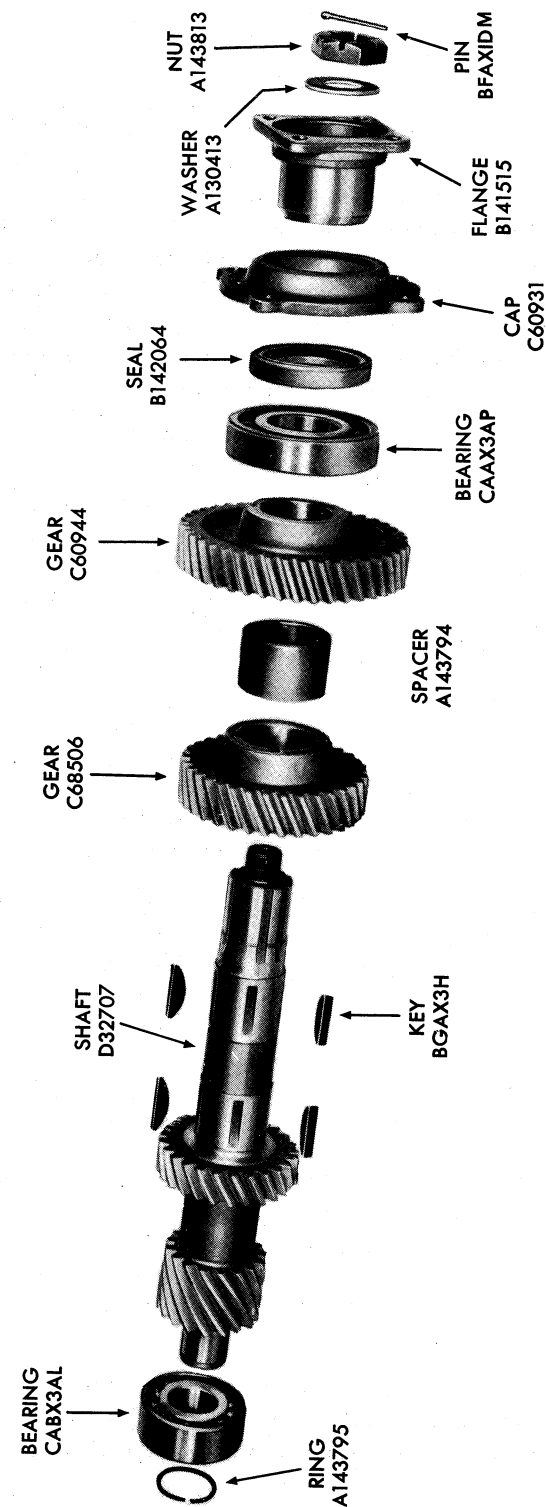

FIGURE 50—Parts of input shaft assembly.
b. Inspection.—Carefully clean shaft with gears and fourth and fifth speed gears with dry cleaning solvent. Examine all gears for signs of fracture and all gear teeth for breakage or chipping. Check keyways and keys for fit. Check shaft ends where they ride in front and rear bearings (*fig. 50*).
c. Assemble (figs. 50 and 51).—Install Woodruff keys in shaft for fourth speed gear. Support fourth speed gear in a hydraulic press with the longer hub down. Start shaft down through gear with keys in shaft alined with keyways in gear. Press shaft into gear all the way. Install spacer. Install keys as for fourth speed gear and press shaft into fifth speed gear, also with longer hub down.